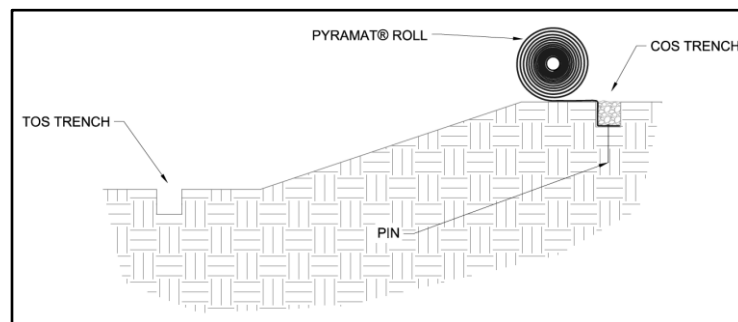

Figure 5: Crest of Slope (COS) Trench Placement
- Backfill and compact the COS trench in the location of the first PYRAMAT panel only (Figure 5).